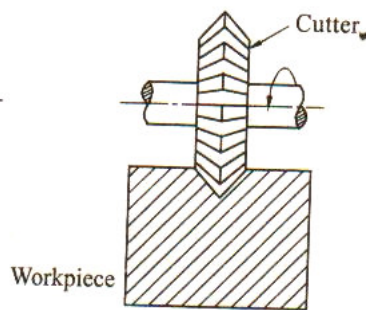

Fig. 11.6 Angular milling
and keyways using different types of cutters. Fig 11.6 (a) illustrates the key way milling operation using a side milling cutter, which has teeth on its periphery and along one or both of its sides. Similarly the open slots may also be produced using the plain milling cutter. Fig. 11.6(b) illustrates closed slot milling using an end mill. T-slots are produced in two steps using a plain milling cutter and T-slot milling cutter as shown in the Fig. 11.6(c). The cutter should be set exactly at the center line of the groove or key way first. Only then the cut should begin.
- (ii) End milling: Refer Section 11.9, Fig 11.6(b) and (c).